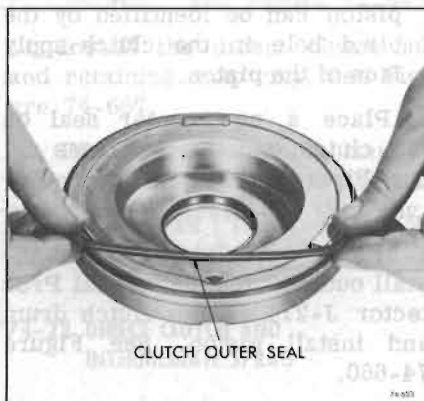

Figure 74-653
9. Remove inner and outer clutch piston seals. See Figure 74-653.
1. Place new inner, and outer oil seals on clutch piston, lips face away from spring pockets. See Figure 74-653.